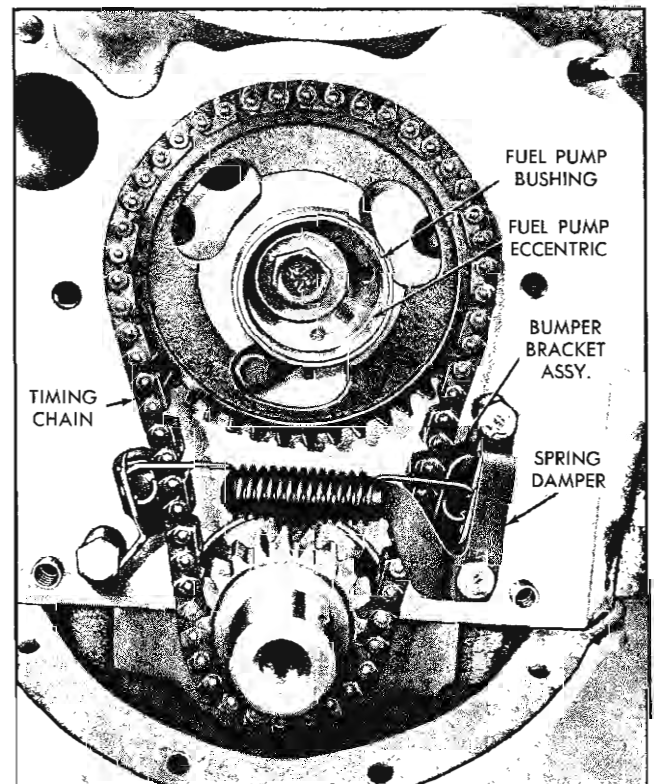

Fig. 6-41 Front of Engine with Timing Cover Removed (4 cyl.)
8. Remove fuel pump eccentric and bushing (Fig. 6-41).
2. Remove timing chain tensioner spring damper and bumper (Fig. 6-41) on 4 cylinder only.